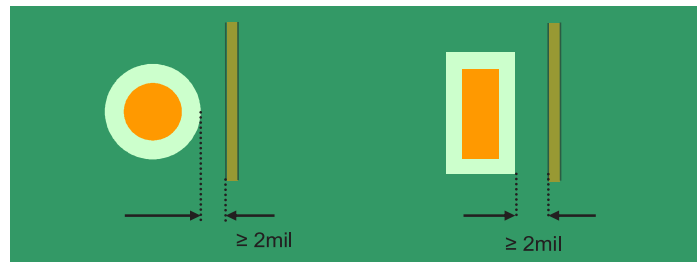

Figure 8: Recommended spacing between trace and pads.
- [21] For outer layers, the distance between the trace and copper pads should satisfy the requirements shown in figure 8.